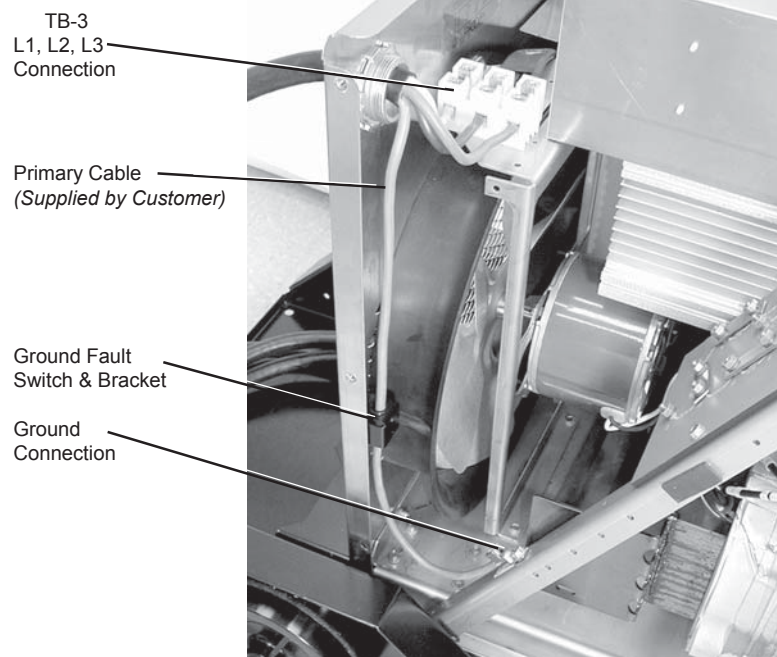

Figure 3-1. Primary Power Leads L1,L2, L3 & Ground
2. Remove the top cover. Identify primary power input connection block, chassis ground lug on the fan shroud frame, and primary input terminal board. Refer to Figures 3-1 thru 3-5.